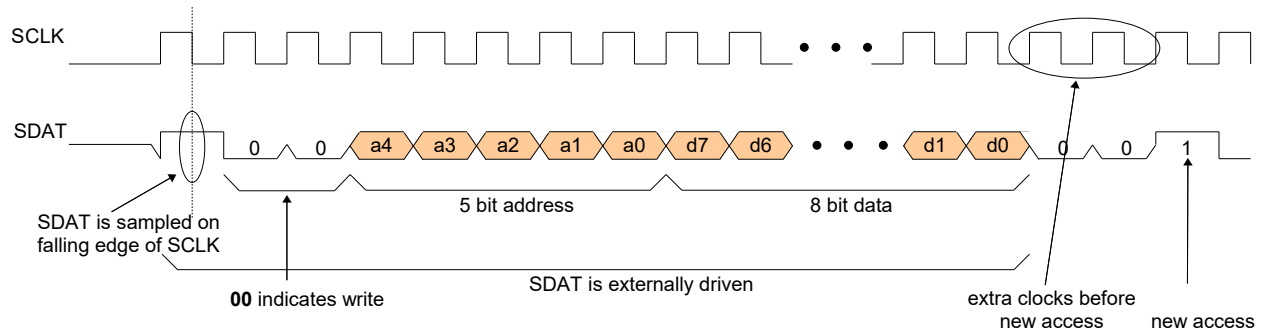
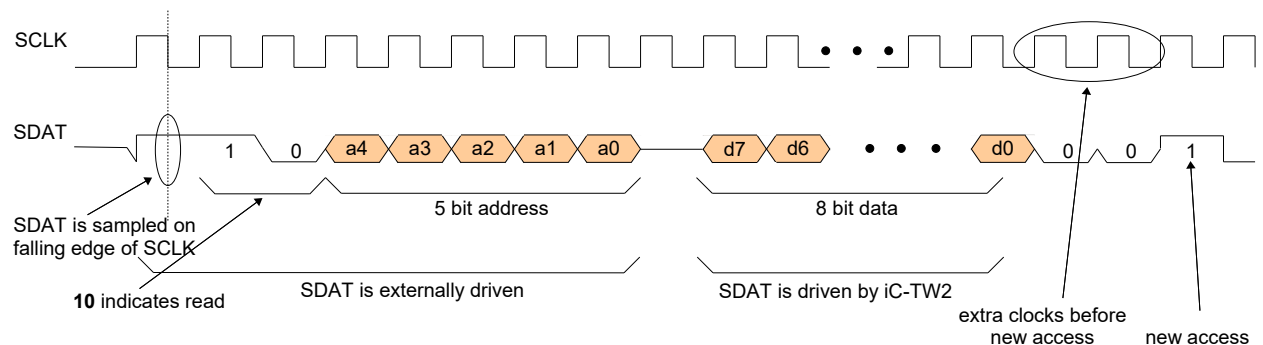

Figure 14: Register bank write access on 2W-Interface
Figure 15: Register bank read access on 2-wire interface
Control register access is shown in Figure 14 (write) and Figure 15 (read) respectively. If SDAT is **00** after the start bit a write access is requested. The data word d(7:0) will be written into register a(4:0). Please note that a(4) is always 0 since the iC-TW2 only has 16 addressable registers.